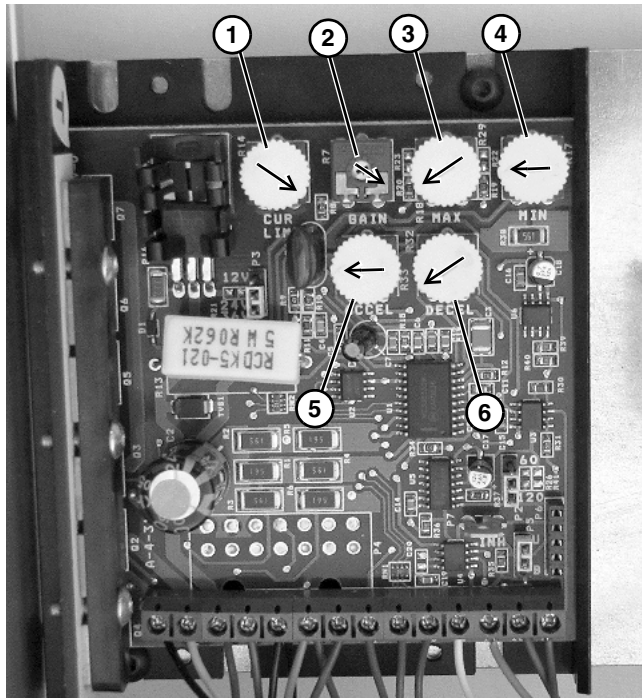

Figure 69
2. Using a small screwdriver, slowly turn down the GAIN (CCW) (Figure 69, item 2) to top speed within 3 Ft./Min. See Speed Chart below:
4. Adjust MIN (Figure 69, item 4) to low speed within 3 Ft./Min. (See Speed Chart above.)